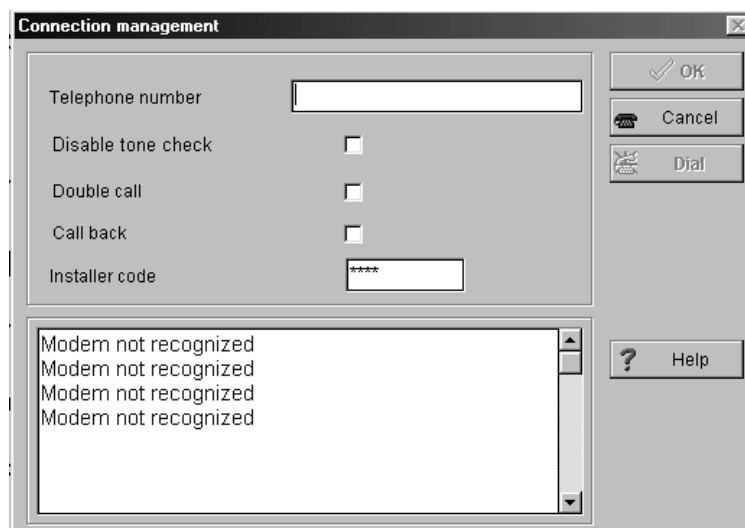

Figure 35 Page of connection
Step 4 Select **Connecting** from the **Modem** menu to open the **Connection management** window (see figure 35).